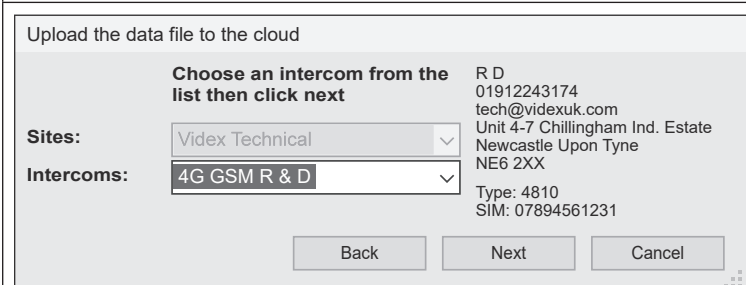

Fig. 110
6. From the intercoms drop down list select the name given to the GSM intercom that was setup in the **SMS Wizard PRO App**. Just below the site contact details the GSM intercom type and the SIM number will appear, as shown in **Fig.110**.
The **.dat** file data uploaded to the cloud will be linked to the GSM intercom that was selected in step 6, in the example **Fig.110** the named GSM intercom **'4G GSM R & D'**.